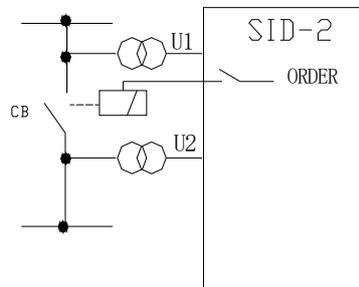

fig.2 Paralleling of power lines
- 2 Automatic paralleling for synchronous and asynchronous lines and busbars, see Fig.2 below